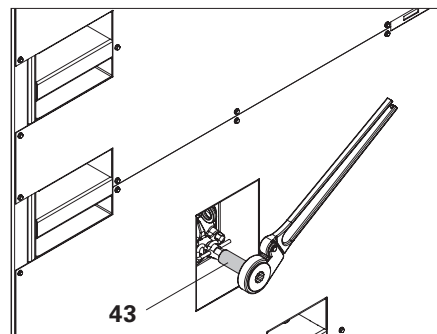

Fig. A4.05
If MX Ties are set to their maximum length, a Scaffold Builder Ratchet Extension (43) is required to tighten and loosen the MX Ties. (Fig. A4.05)